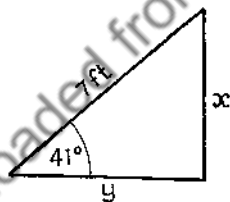

Fig. 25
- (3) In fig. 25 find the length
(3) In fig. 25, find the length  $y$ .